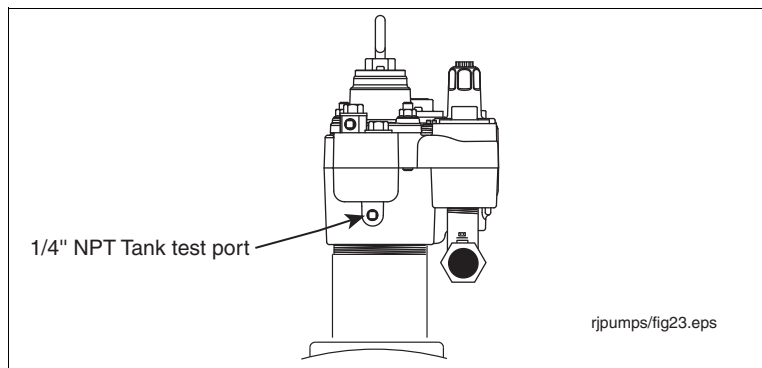

Figure 38. Tank Test Port On Manifold
- Remove and save the 1/4" NPT tank test port plug and attach tank testing equipment (see Figure 38).